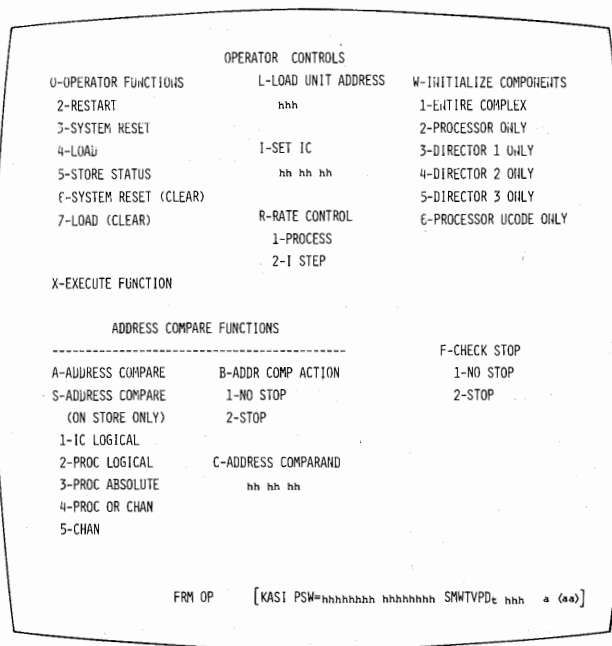

Figure 4-5. Operator (OP) Frame
The display uses formatted display frames, each of which has a display area 25 lines long and 80 characters wide. The content of each display frame depends on its function. For example, the Operator (OP) frame (Figure 4-5) contains operator functions such as load, restart, system reset, and store status.